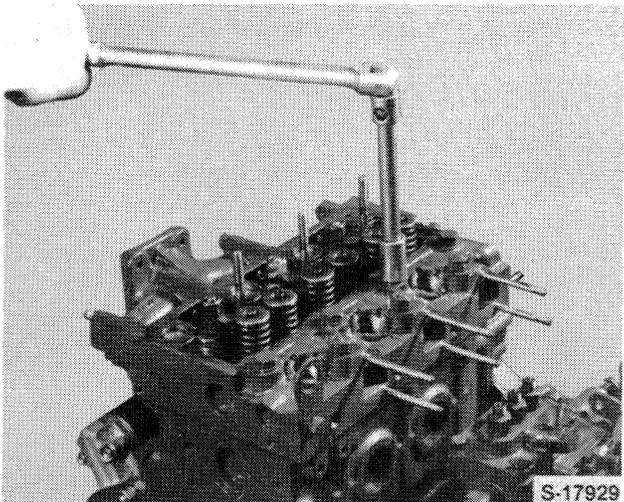

Figure 13
- 17. Remove the cylinder head bolts by alternately loosening a half turn at a time to prevent warping the head, Figure 13.